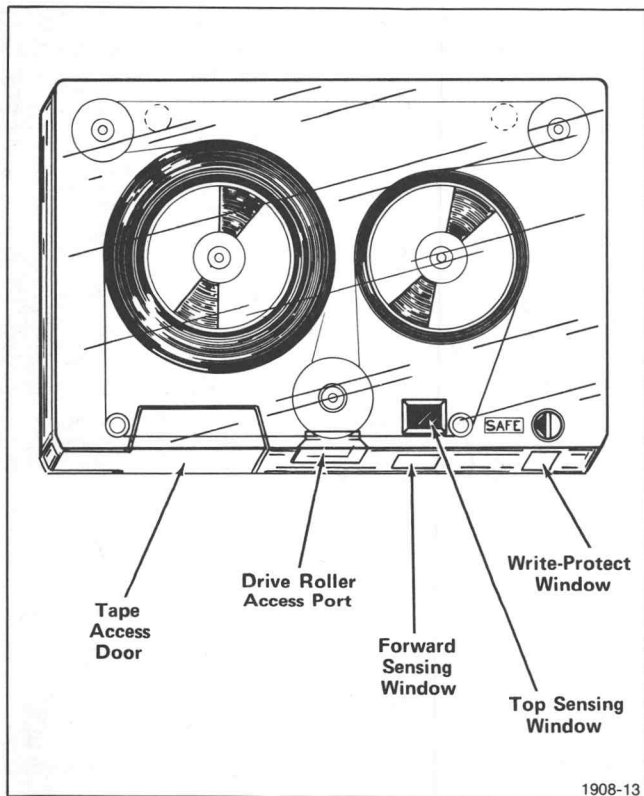

Fig. 2-8. Data cartridge parts.
2. Do not allow the "windows" for the light-sensing mirrors (Fig. 2-8) to become soiled or dirty, as this may interfere with detection of the position markers (such as End-of-Tape). Under no circumstances should the windows be covered or coated.